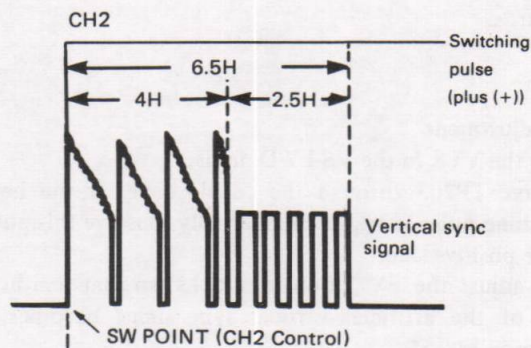

Figure 55
- ① Use the alignment tape only, while placing the VTR in the Playback mode.
- ② Set the tracking Control in the click position.
- ③ Observe TP203 on the oscilloscope. If the switching pulse is triggered externally, observe the switching pulse at CC connector ③ pin.
- ④ Using the positive slope of the vertical sync signal through the oscilloscope, properly adjust the CH2 Control (within the hybrid IC) so that the output waveform is as shown in Fig. 55.